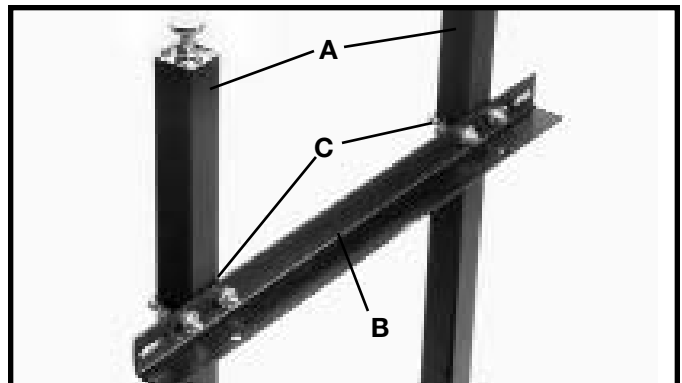

Fig. 7
4. Assemble shelf support bracket (B) Fig. 7, to the table legs (A) using two U-clamps (C), flat washers, and hex nuts. **NOTE: Height adjustments to the bracket will be made later.**